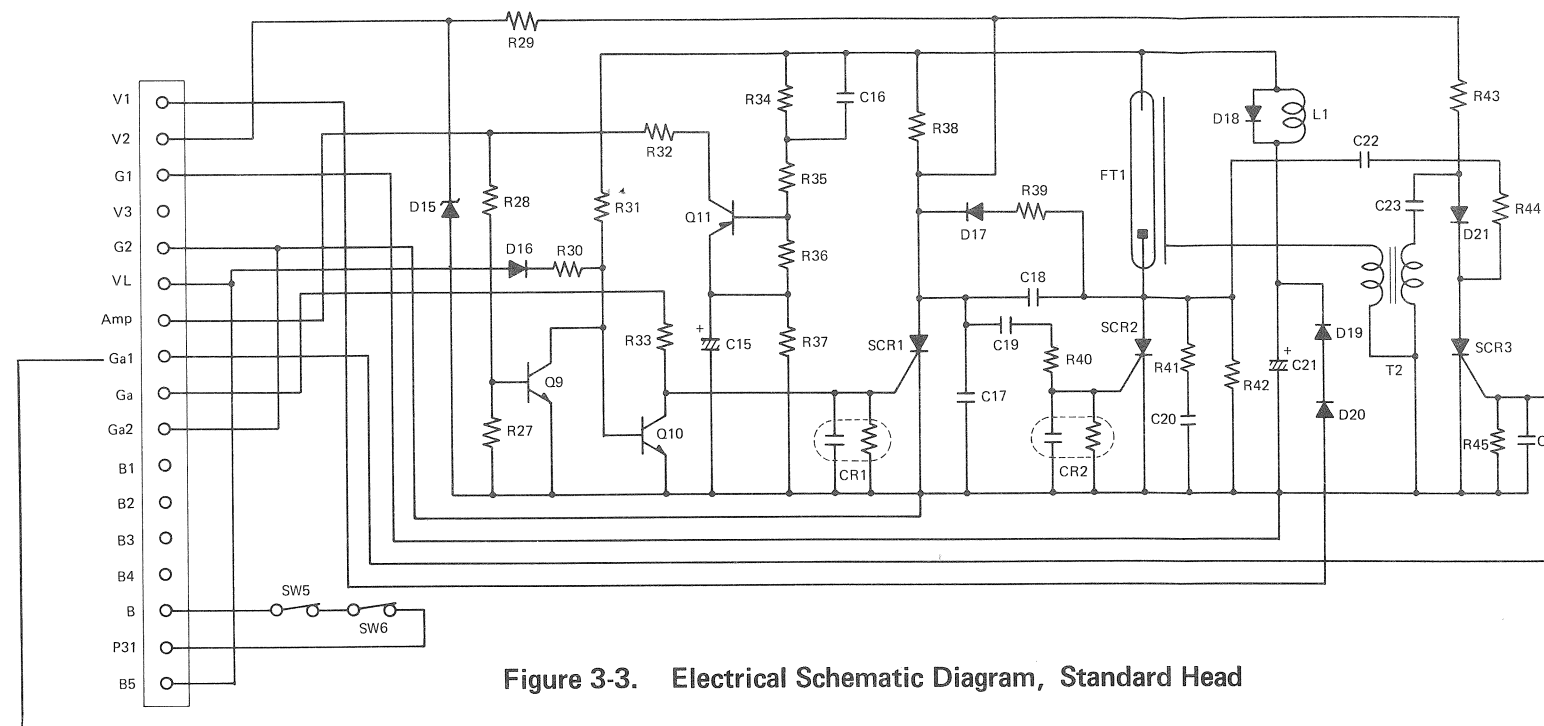
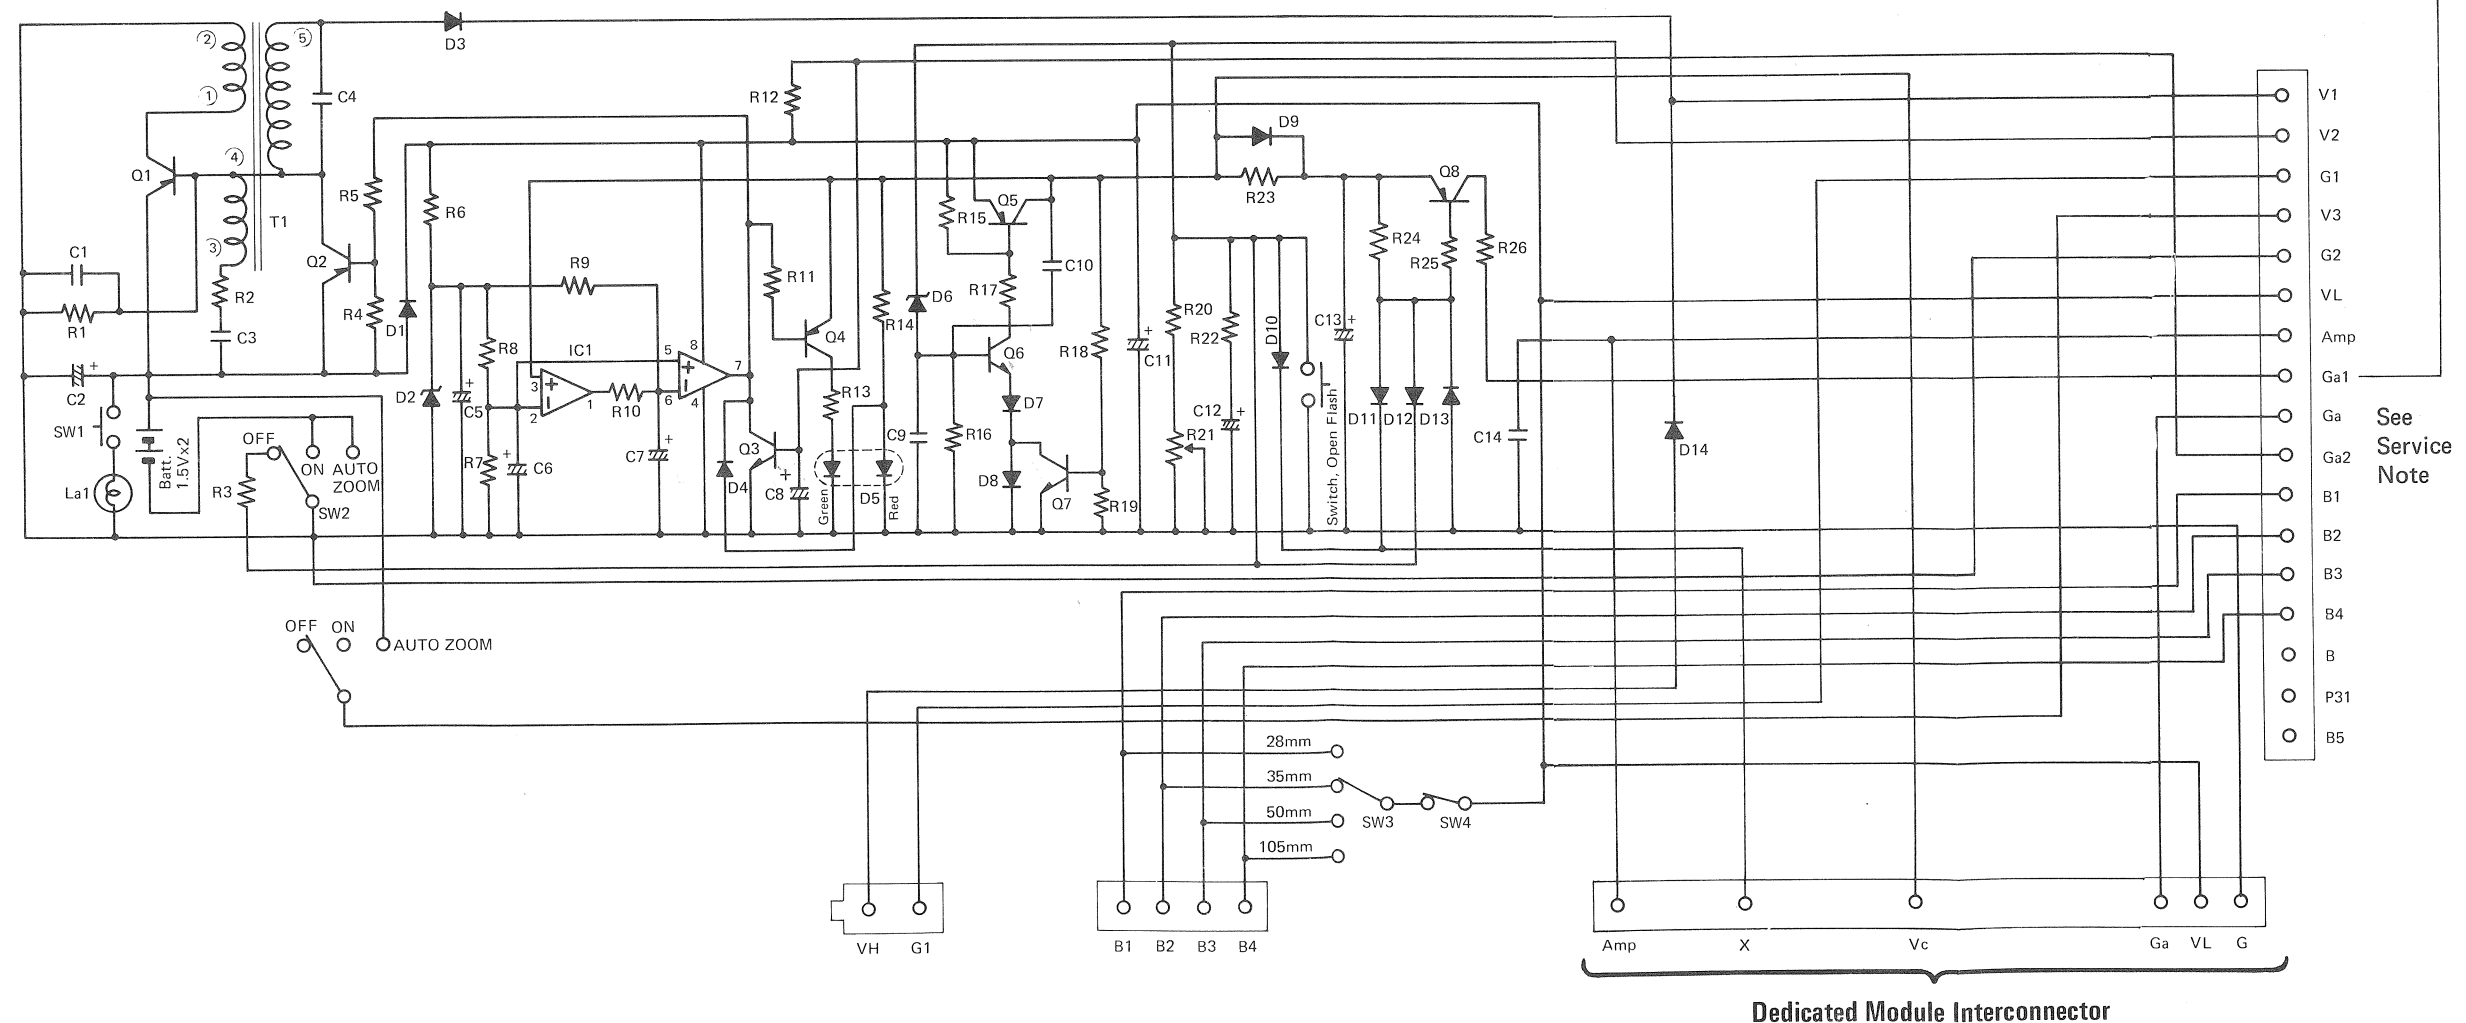

Figure 3-3. Electrical Schematic Diagram, Standard Head
Figure 3-4. Electrical Schematic Diagram, Main Body
REFERENCE LIST FOR FIGURES 3-3 AND 3-4
The reference callouts identify interconnect points between the main body and standard head. They also indicate connection points between Printed Circuit Board (A) Assy (Vivitar Part Number 3110337) and Printed Circuit Board (B) Assy (3100338). The callouts may be referenced to electrical schematics in Figure 3-3 and Figure 3-4.